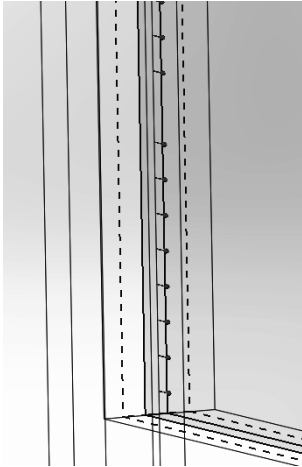
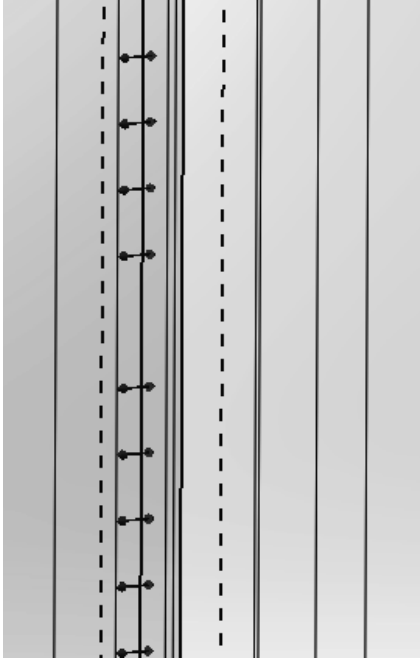

Figure 2.17d) Inlet velocity boundary condition indicated by arrows
Figure 2.18b) Outlet static pressure boundary condition
18. Red arrows pointing in the flow direction appears indicating the inlet velocity boundary condition, see figure 2.17d). Right click in the graphics window and select **Zoom to Fit**. Right click again in the graphics window and select **Rotate View** once again to rotate the part so that the inner right surface is visible in the graphics window. Right click and click on **Select**. Right click on **Boundary Conditions** in the **Flow Simulation analysis tree** and select **Insert Boundary Condition...** Right click on the outflow boundary surface and select **Select Other**. Select the Face corresponding to the outflow boundary. Click on the **Pressure Openings** button in the **Type** portion of the **Boundary Condition** window and select **Static Pressure**. Click OK to exit the window. If you zoom in on the outlet boundary, you will see blue arrows indicating the static pressure boundary condition, see figure 2.18b).